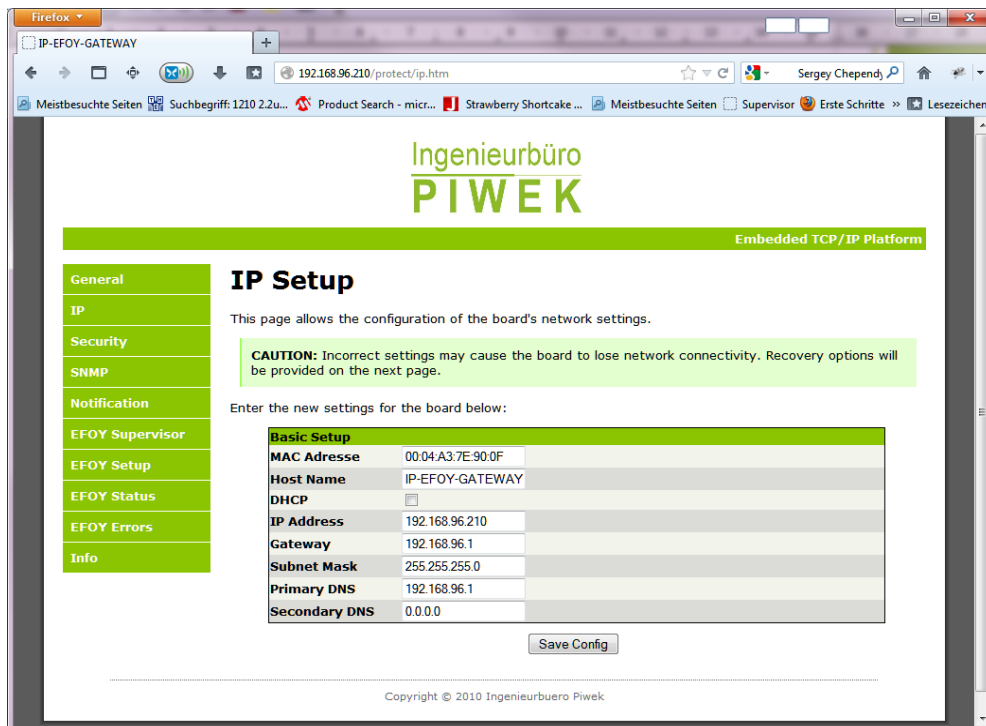

Figure 7: IP-Konfiguration IP-EFOY-GATEWAY
4. Open the browser and enter the default IP address of the IP-EFOY-GATEWAY (see Figure 7).
6. Afterwards choose new static IP-Configuration for your given network (see Figure 7). If you set the **"DHCP"** check box, the IP-Configuration may be accomplished by a DHCP server in the local network automatically.